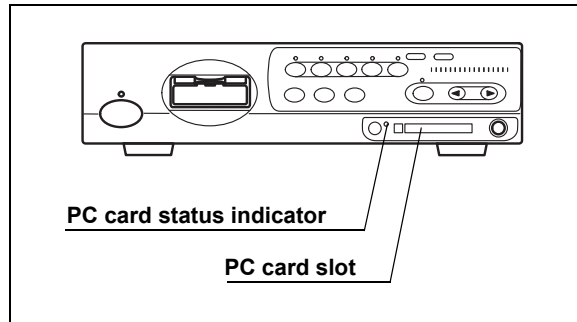

Figure 5.59
1. Insert the PC card into the PC card slot. The PC card status indicator lights up green (see Figure 5.59).